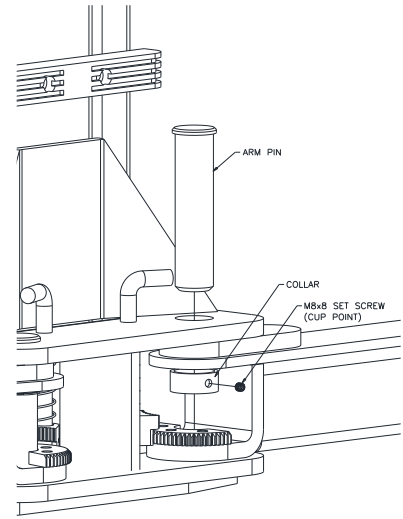

Fig. 10 –Arm Install
- 30) Lubricate the arm pin or carriage arm pin hole with “anti-seize” and install the arms as shown in Fig. 10. Once the set screw is finger tight against the arm pin, tighten ¼ turn with hex wrench.